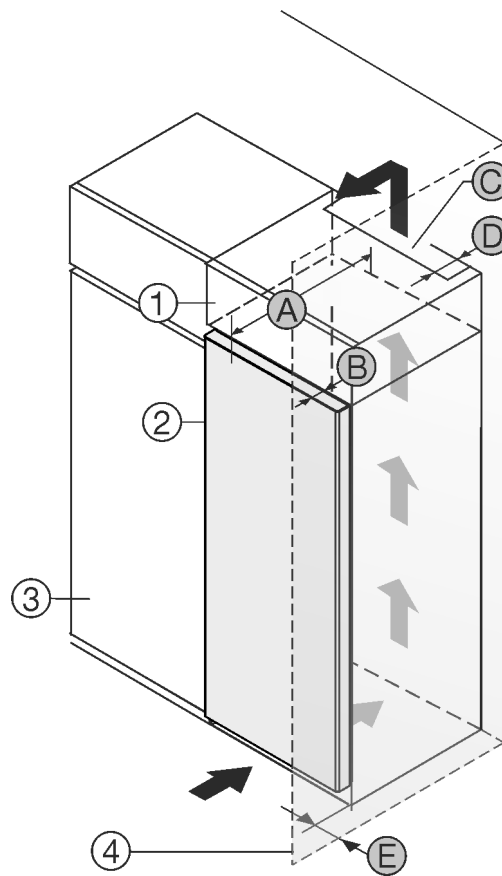

Fig. 1
- (1) Top cupboard \*
- (2) Appliance \*
- (3) Kitchen cabinet \*
- (4) Wall \*
- (A) Appliance depth \*
- (B) Door depth \*
- (C) Ventilation cross-section \*
- (D) Distance to the rear of the appliance \*
- (E) Distance to the side of the appliance \*
You can place the appliance directly beside the kitchen cabinet Fig. 1 (3).
There must be a ventilation shaft at the depth Fig. 1 (D) of the back of the top cupboard over the entire width of the top cupboard.\*
The cross section of the ventilation gap Fig. 1 (C) must be maintained below the ceiling.\*
If the appliance is set up with the hinges next to a wall Fig. 1 (4), the distance between the appliance and the wall must be at least 13 mm.\*
In order to be able to fully open the door, the appliance must protrude by the depth of the door Fig. 1 (B) from the front of the kitchen cabinet. Regardless of the depth of the kitchen cabinets Fig. 1 (3) and use of wall spaces, the appliance can protrude further.\*